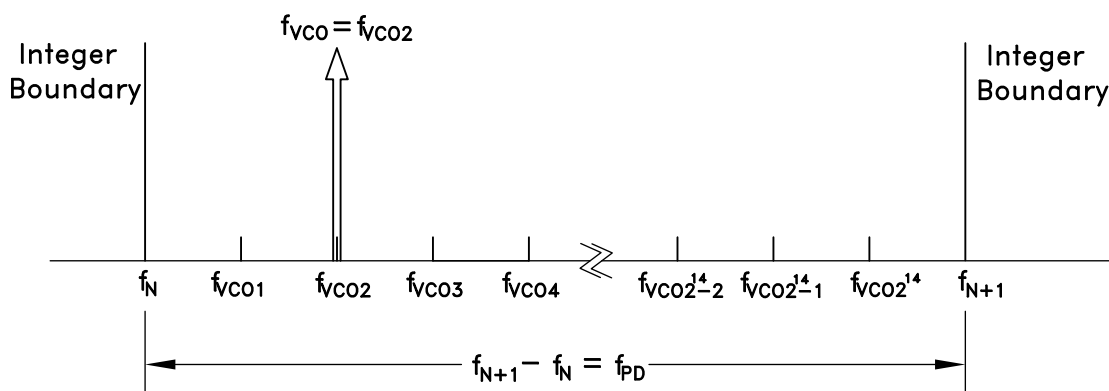

Figure 44. Exact Frequency Tuning
and f_{VCOk} are the channel step frequencies where $0 < k < 2^{24}-1$, As shown in Figure 44.
Some fractional PLLs are able to achieve this by adjusting (shortening) the length of the Phase Accumulator (the denominator or the modulus of the Delta-Sigma modulator) so that the Delta-Sigma modulator phase accumulator repeats at an exact period related to the interval frequency ($f_{VCOk} - f_{VCO(k-1)}$) in Figure 44. Consequently, the shortened accumulator results in more frequent repeating patterns and as a result often leads to spurious emissions at multiples of the repeating pattern period, or at harmonic frequencies of $f_{VCOk} - f_{VCO(k-1)}$. For example, in some applications, these intervals might represent the spacing between radio channels, and the spurious would occur at multiples of the channel spacing.
If it is desirable to have multiple, equally spaced, exact frequency channels that fall within the same interval (ie. $f_N \leq f_{VCOk} < f_{N+1}$) where f_{VCOk} is shown in Figure 44 and $1 \leq k \leq 2^{14}$, it is possible to maintain the same integer-N (Reg 03h) and exact frequency register (Reg 0Ch) settings and only update the fractional register (Reg 04h) setting. The Exact Frequency Channel Mode is possible if (EQ 17) is satisfied for at least two equally spaced adjacent frequency channels, i.e. the channel step size.
To configure the HMC833LP6GE for Exact Frequency Channel Mode, initially and only at the beginning, integer (Reg 03h) and exact frequency (Reg 0Ch) registers need to be programmed for the smallest f_{VCO} frequency (f_{VCO1} in Figure 44), as follows:
1. Calculate and program the integer register setting Reg 03h = $N_{INT} = \text{floor}(f_{VCO1}/f_{PD})$, where f_{VCO1} is shown in Figure 44 and corresponds to minimum channel VCO frequency. Then the lower integer boundary frequency is given by $f_N = N_{INT} \cdot f_{PD}$.
$$\text{Reg04h} = N_{FRAC} = \text{ceil} \left(\frac{2^{24} (f_{VCOk} - f_N)}{f_{PD}} \right) \quad \text{where } f_N = \text{floor}(f_{VCO1}/f_{PD}), \text{ and } f_{VCO1}, \text{ as shown in Figure 44, represents}$$
4. To change from channel 1 ($f_{VCO1} = 2800.2$ MHz) to channel 2 ($f_{VCO2} = 2800.3$ MHz), only Reg 04h needs to be programmed, as long as all of the desired exact frequencies f_{VCOk} (Figure 44) fall between the same integer-N boundaries ($f_N < f_{VCOk} < f_{N+1}$). In that case